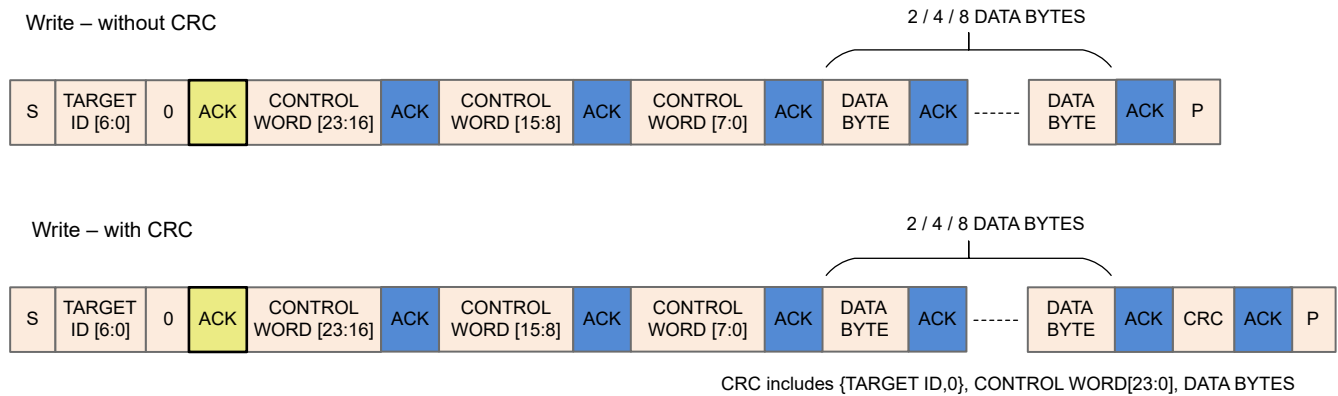
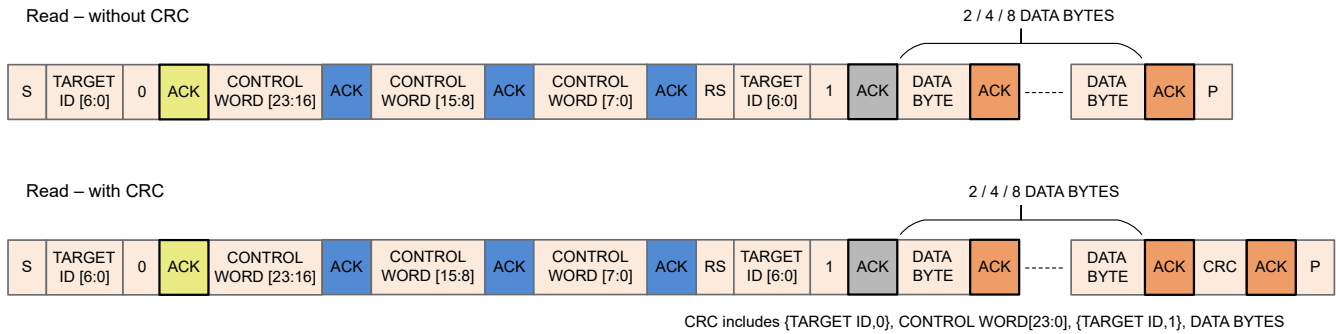

图 7-57. I²C Write Transaction Sequence
图 7-58. I²C Read Transaction Sequence
MCF8315A write transaction over I²C involves the following sequence (see 图 7-57).
MCF8315A read transaction over I²C involves the following sequence (see 图 7-58).
- When target ID is a match, I²C peripheral in MCF8315A raises a start interrupt request. Until this start interrupt request is processed, clock is stretched. Upon processing this request, clock is released and an ACK (marked in yellow or grey in 图 7-57 and 图 7-58) is sent to the controller for continuing with the transaction.
- Receive interrupt pending:** When a receive interrupt is waiting to be processed and the receive register is full which occurs when two successive bytes (data or control) have been received by MCF8315A (separated by one ACK shown as blue boxes in 图 7-57 and 图 7-58) without the receive interrupt generated by the first byte being processed. Upon receive of second byte, clock is stretched until receive interrupt generated by the first byte is processed.